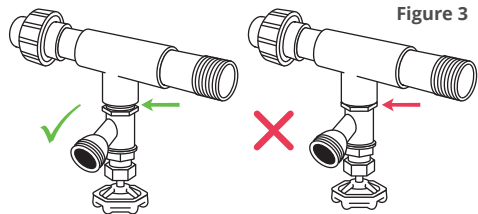

Figure 3
3. Hand tighten the drain valve into the 1/2" female threaded tee. Then, tighten 1-2 more turns with a wrench (Figure 3).